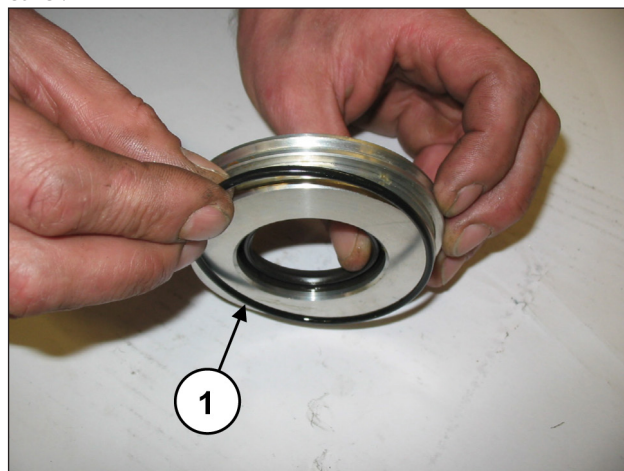

Fig. 94
Position the O-ring (pos. ①, Fig. 94) in the seat of the oil seal cover.